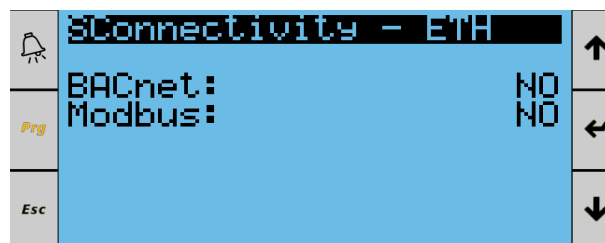

Figure 82. Settings Menu, Communications, Ethernet, Page 1
22. Set BACnet or Modbus to YES as shown in **Figure 82** below. Note that only Modbus TCP and BACnet IP protocols are supported.